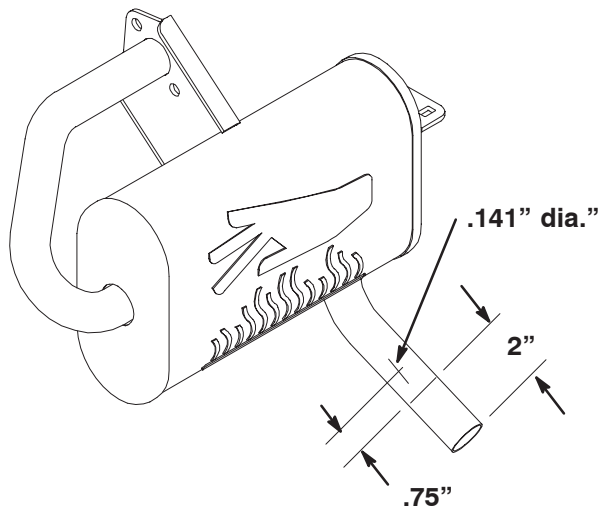

Figure 1
4. Measure and cut 2 inches off the end of the tail pipe (Fig. 1). Remove all burrs from the tail pipe.
5. Locate, mark and drill a .141 inch diameter hole .75 inch from the end of the tail pipe (Fig. 1).